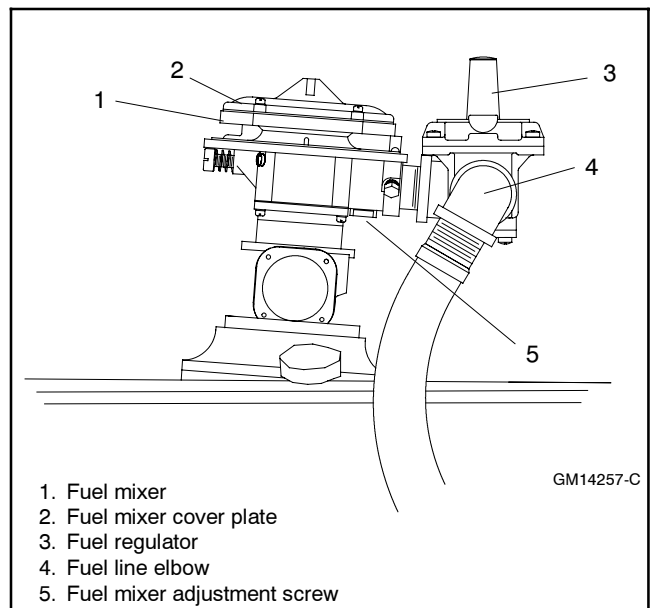
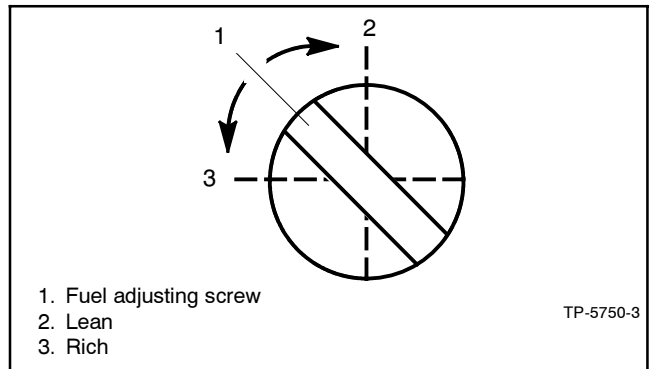

Figure 9-22 Fuel Mixer
Figure 9-27 Fuel Mixture Adjustment, Typical
- a. Remove the five gas mixer cover plate screws. See Figure 9-22. Be aware that there is a spring under the gas mixer diaphragm, that may cause the cover plate and mixer diaphragm to pop up when the screws are loosened and removed.
- b. See Figure 9-22 for location of the fuel mixture adjustment screw and adjust the fuel mixture screw (Figure 9-27) until the engine runs smoothly.